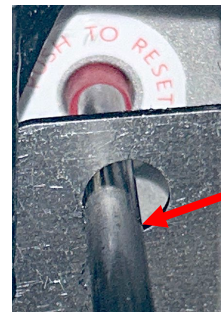

Figure 13
28. Position the reset rod in the guide hole bracket in front of the motor reset button (see Figure 13).
30. Ensure the rod tip contacts the reset on the motor when pushed in (see Figure 13).